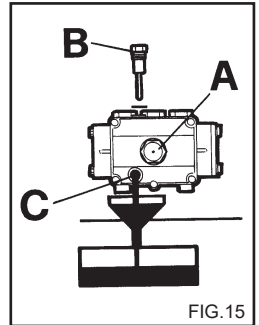

FIG. 15
- 2) Unscrew the cap with the dipstick (fig. 15).